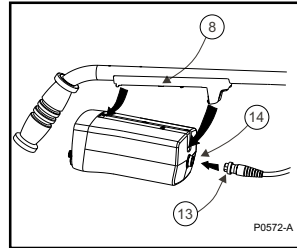

Figure 5 - Mounting the control box on the shaft
- b) Slide in the black plastic rear control box bracket (8).
- d) Clip the control box onto the rear mounting bracket (see figure 5).
- f) Connect the coil connector (13) to the plug (14) on the rear of the control box.